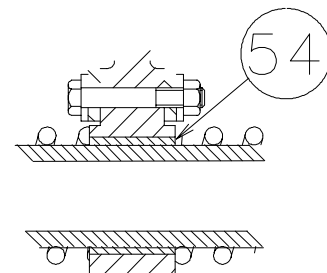

Figure 12
4.8.2 Refer to Table 10 to determine if the reaction plate bushings (54) (see figure 12) require replacement.
4.9.7 Place the springs into the pockets in the pressure plate, per Figure 12.